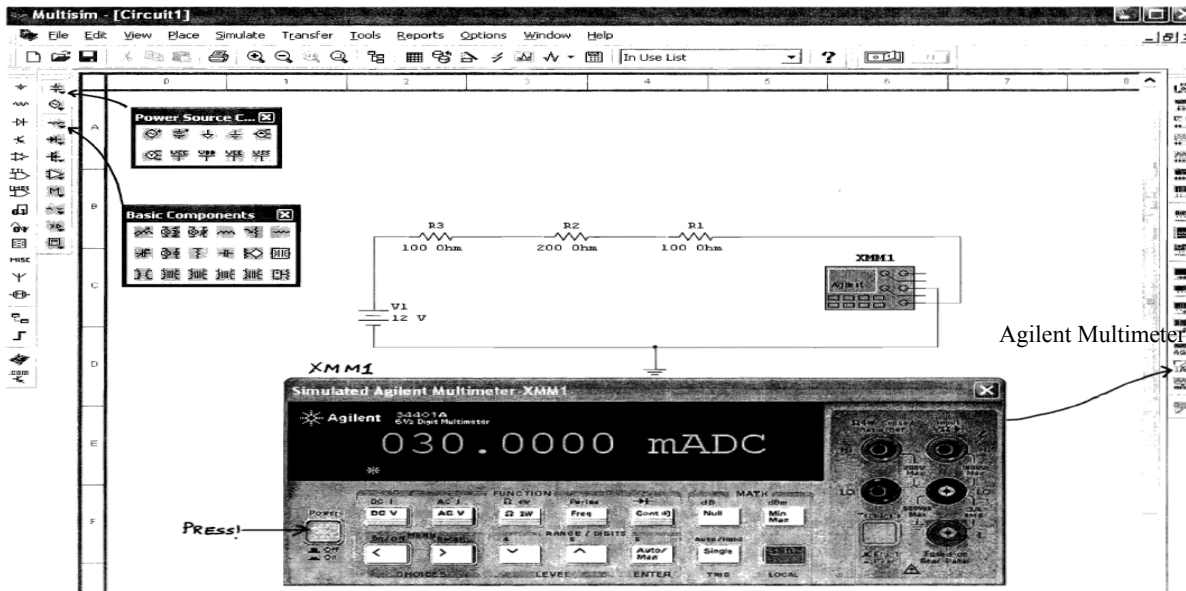

Figure 13: Circuit Simulation in Multisim
1. Open the Multisim software. Follow the arrows in the diagram below to create the circuit depicted in Figure 13. Save the file as ESE112_circuit1.ms7. Note: Change value on the components by double clicking on the individual component.